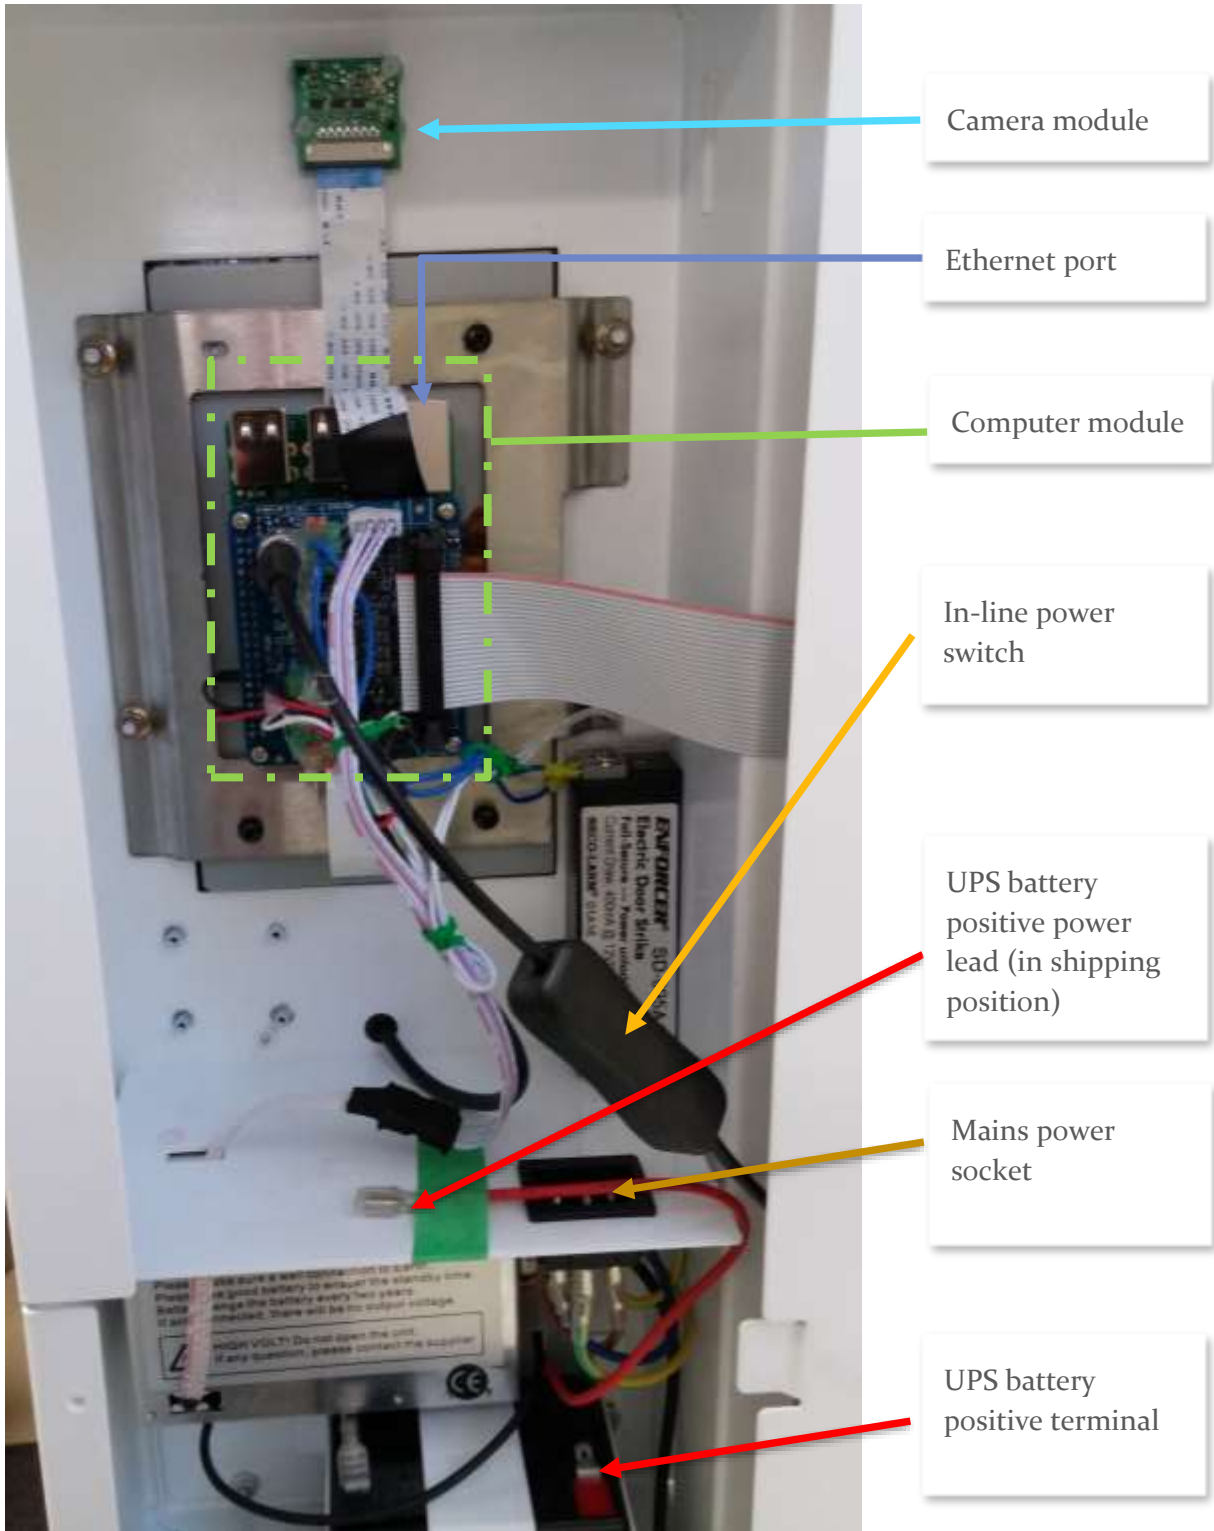

Figure 1. KeyMaster internals.
- Feed the lead back down to the battery compartment and connect to the positive battery terminal (see Figure 1.).